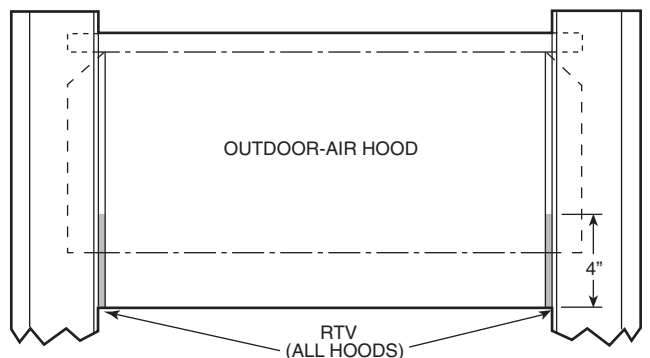

Fig. 29 — Outdoor-Air and Economizer Hood
5. Apply a bead of RTV or similar sealant to corner of each hood at pivot points to prevent water leaks. See Fig. 29.
6. Apply a bead of RTV or similar sealant to corners of economizer hoods at pivot points to prevent water leaks. See Fig. 29.
5. Apply a bead of RTV or similar sealant to corner of economizer hood at pivot point to prevent water leaks. (See Fig. 29.)